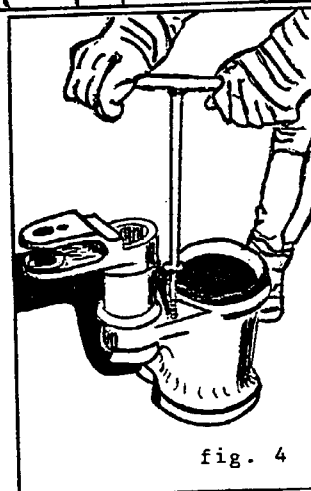

fig. 4
5. Tap the holes to M-12 normal thread (M-12 x 1.75) (See fig. 4). Clean the threads.